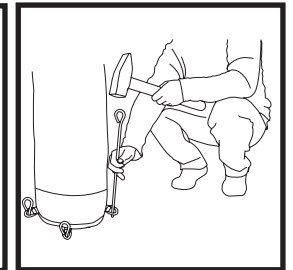

Fig. 7
11. Anchor the tent to the ground by inserting spike into the rings at the base (Fig. 7).